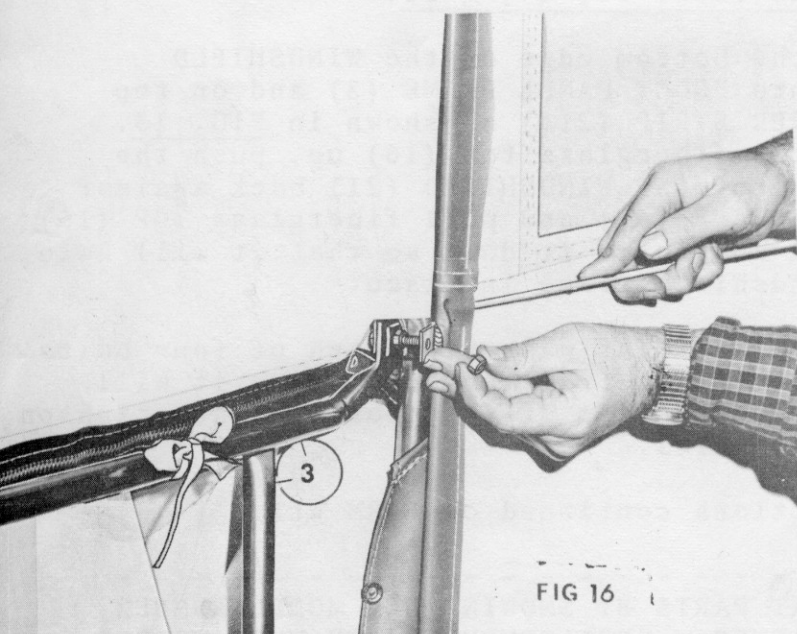

FIG 16
D. Insert the bottom, front corner of each door into the bottom DOOR HINGE (13), add a DOOR HINGE (13) to the upper corner of each door, and bolt the upper end of FRONT CORNER POSTS (11). Adjust the mid-point hinge of each door upward or downward so it may be bolted to the cab using the same bolt which fastens together the FRONT PANEL FRAME (3) and each FRONT CORNER POST (11), then secure with another 1/4" nut. (See FIG. 16 for details).